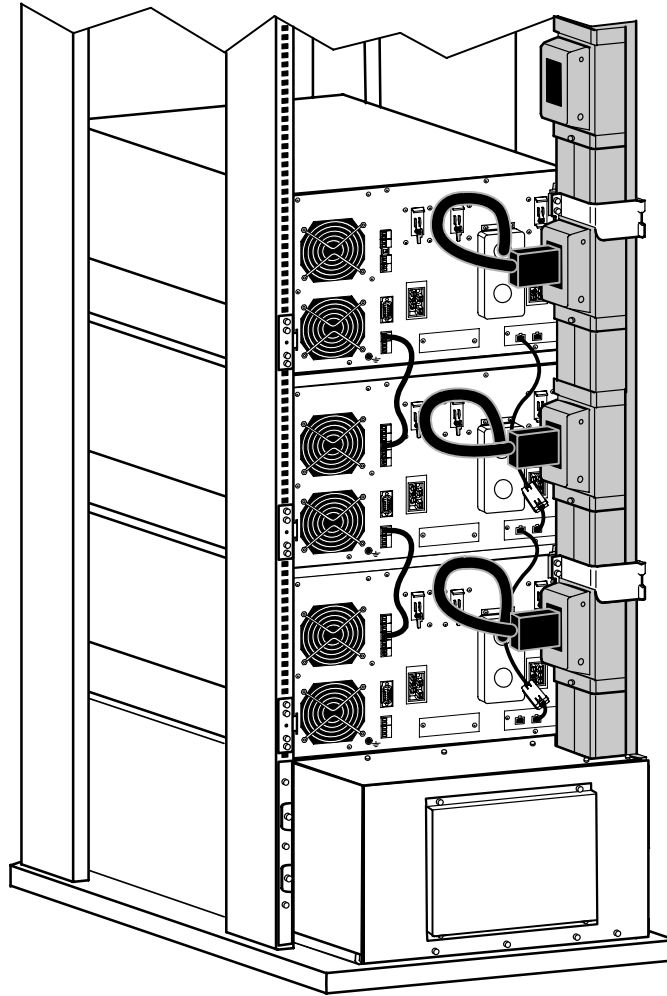

Figure 37. Connecting UPSs to the BladeUPS Bar (Bottom Entry Shown)
18. Connect the parallel input cord from each paralleled UPS to the BladeUPS Bar in the rack as shown in Figure 37.
- 14.** Connect the parallel input cord from the UPS to the BladeUPS Bar in the rack as shown in Figure 37 on page 55.